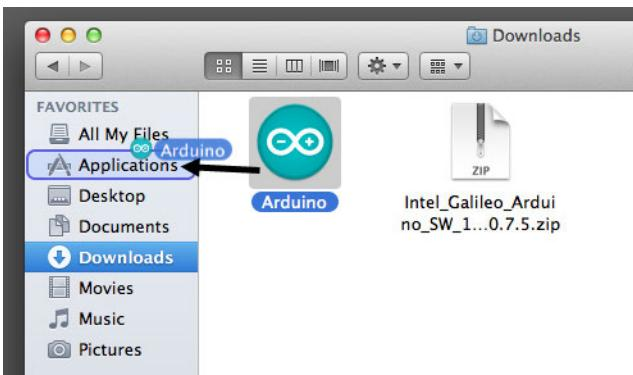

Figure G-1. Drag the Arduino application from your *Downloads* folder to your *Applications* folder.
4. In your *Downloads* folder, drag the Arduino application that was extracted from the ZIP file into your *Applications* folder (Figure G-1).